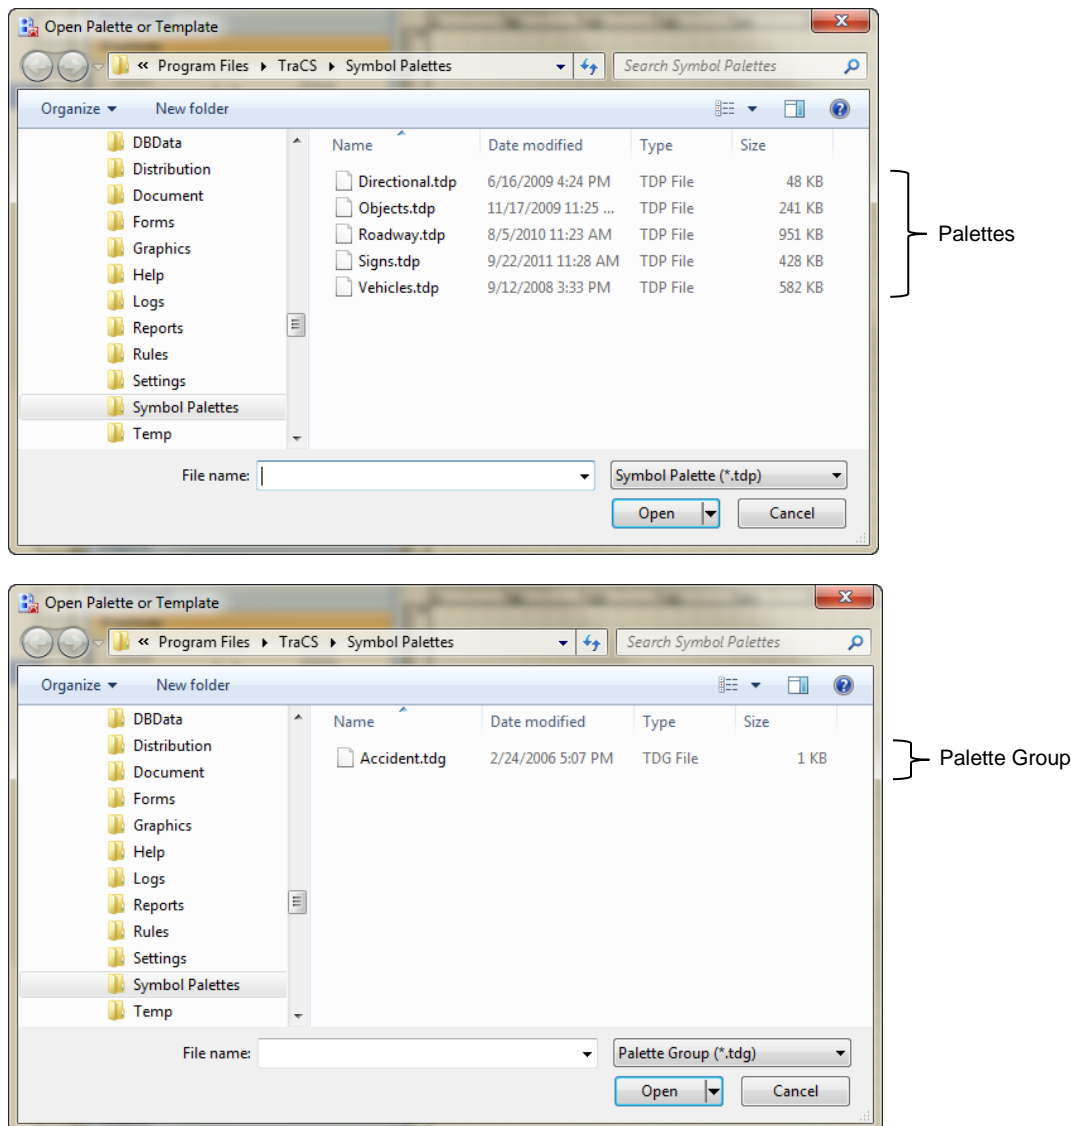

Figure 139. Open Palette or Template Dialog Box
**NOTE:** Palette file extensions are .tdp. Palette group extensions are .tdg. Only one type of extension displays at a time in the dialog box, as shown in Figure 139.